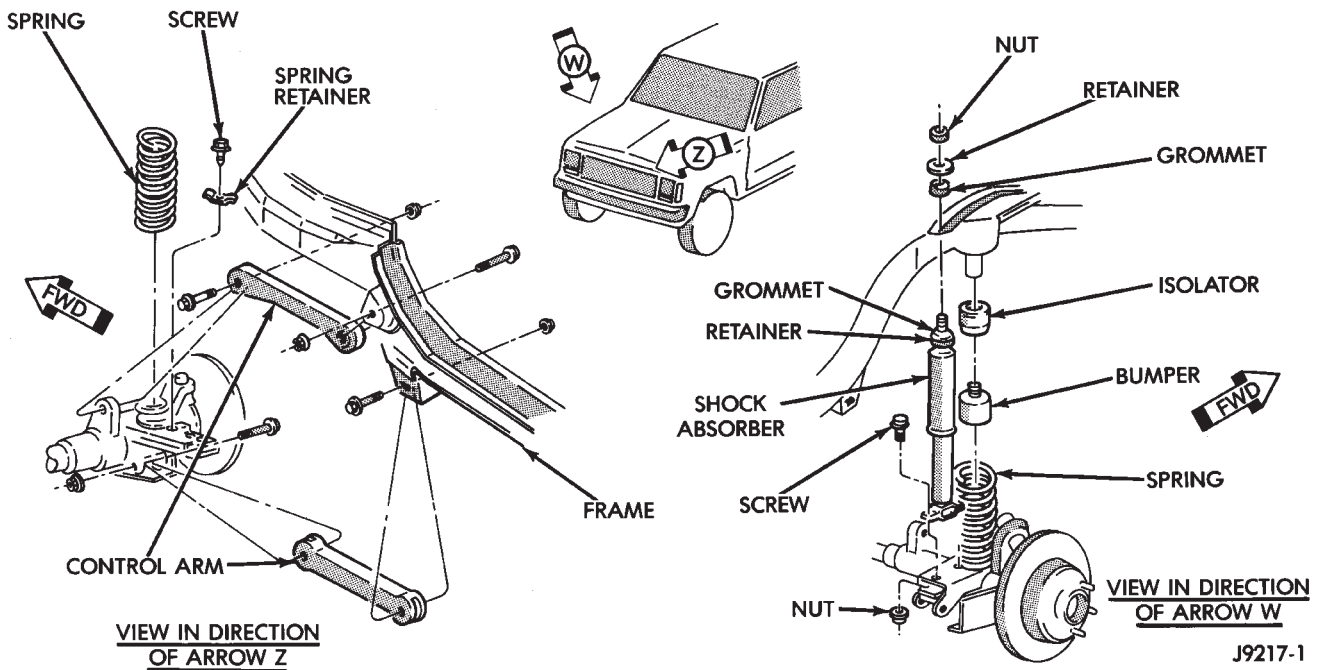

Fig. 6 Coil Spring & Shock Absorber
- (1) Remove the nut, retainer and grommet from the upper stud in the engine compartment (Fig. 6).
- (2) Remove the lower nuts and bolts from the axle bracket (Fig. 6). Remove the shock absorber.
- (1) Raise and support the vehicle. Position a hydraulic jack under the axle to support it.
- (2) Remove the wheel if necessary.
- (3) Mark and disconnect the front propeller shaft from the axle.
- (4) Disconnect the lower suspension arms from the axle (Fig. 6).
- (5) Disconnect the stabilizer bar link and shock absorber from the axle.
- (6) Disconnect the track bar from the frame rail bracket.
- (7) Disconnect the drag link from the pitman arm.
- (8) Lower the axle until the spring is free from the upper mount. Remove the coil spring clip (Fig. 6) and remove the spring.
- (9) Remove the jounce bumper if necessary from the upper spring mount (Fig. 6).
- (1) Install the jounce bumper on the upper spring mount. Tighten the bolt to 42 N·m (31 ft. lbs.) torque (Fig. 6).
- (2) Position the coil spring on the axle pad. Install the spring clip and bolt (Fig. 6). Tighten bolt to 21 N·m (16 ft. lbs.) torque.
- (3) Raise the axle into position until the spring seats in the upper mount.
- (4) Connect the stabilizer bar links and shock absorbers to the axle bracket. Connect the track bar to the frame rail bracket.
- (5) Install the lower suspension arms to the axle. **DO NOT TIGHTEN AT THIS TIME.**
- (6) Install the front propeller shaft to the axle.
- (7) Remove the supports and lower the vehicle.
- (8) Tighten lower suspension arms nuts to 115 N·m (85 ft. lbs.) torque.